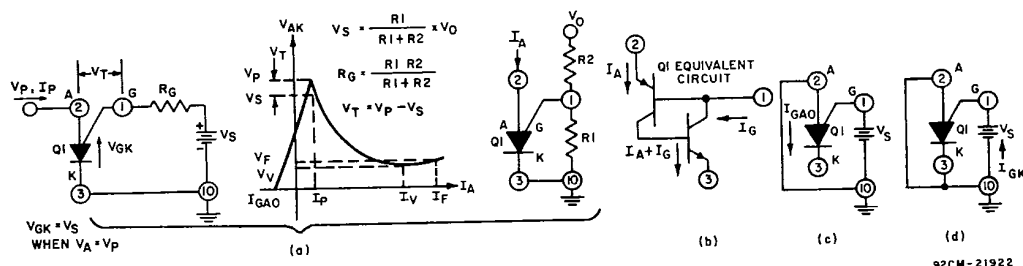

Fig. 22 - General anode characteristics for Q1 (PUT).
* V_T = V_p - V_S (Fig. 22)
The programmable unijunction transistor is essentially an anode-gate SCR. The volt-ampere characteristic of the device is shown in Fig. 22. When an equivalent Thevenin source (V_S , R_G), as shown in Fig. 22, is applied to the gate terminal the device will be "off" if the anode-voltage is negative with respect to the gate voltage. Under this condition, any current flow is exclusively leakage current. When the anode voltage be-